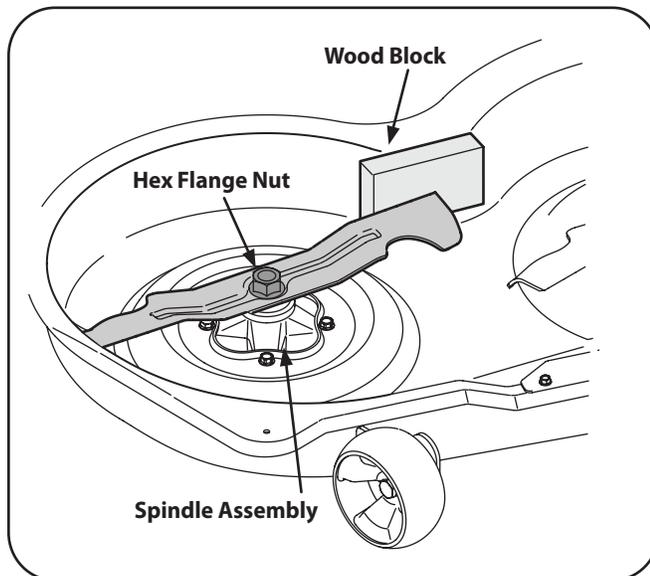

Figure 7-7
2. Use a $\frac{15}{16}$ " wrench to hold the hex nut on top of the spindle assembly when loosening the hex nut securing the blade. A block of wood may be placed between the deck housing and the cutting edge of the blade to help in breaking loose the hex nut securing the blade. See Figure 7-7.